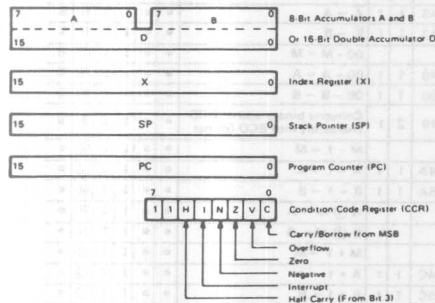

Figure 27 CPU Programming Model
- CPU Programming Model (refer to Fig. 27)
Fig. 27 depicts the HD63701X0 programming model. The double accumulator D consists of accumulator A and B, so when using the accumulator D, the contents of A and B are destroyed.